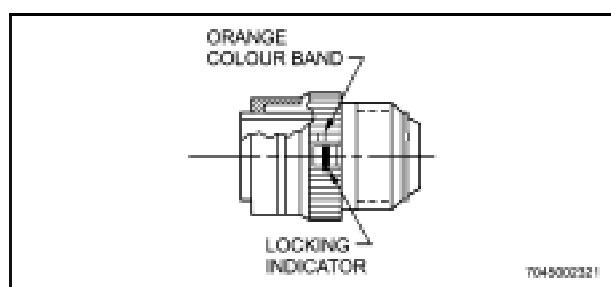

Figure 4-31 Self-Locking Connector
- d. Use a strap wrench or padded conduit pliers to tighten coupling rings 1/16 to 1/8 turn beyond finger tight if space around connector is too small to obtain a good finger grip. Self-locking connectors are coupled until the moveable indicator is aligned with index marks on coupling ring. (See Figure 4-31.) In fully mated condition locking indicator shall be aligned within orange colour band.